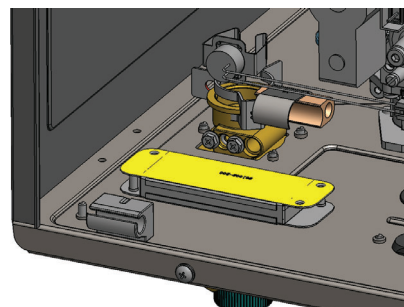

Figure 4 - Air inlet plate orientation options
- 9 Locate the air inlet plate as shown in Figure 4.
NOTICE: Figure 4 has some elements removed for clarity.